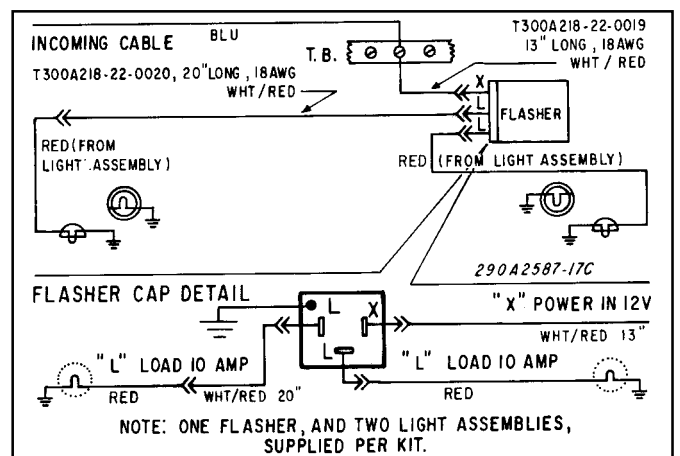

Figure 3.
5. See figure 3. Connect the female end of the 13" WHT/RED wire to the flasher terminal marked "X" (on the flasher). Connect the wire's other end to the terminal block position which connects to the incoming cable's blue wire.
6. See figure 3. Connect the black wire on the driver's side reflector assembly to a flasher terminal marked "L" (on the flasher).
7. See figure 3. Connect the male terminal end of the 20" WHT/RED wire to the mating terminal at the side of the other reflector assembly. Connect the female terminal on the wire's other end to the other flasher terminal marked "L" (on the flasher).